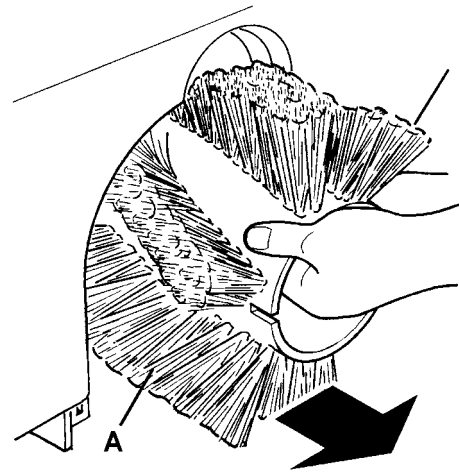

Figure 7
7. Remove the main broom (A, Fig. 7).